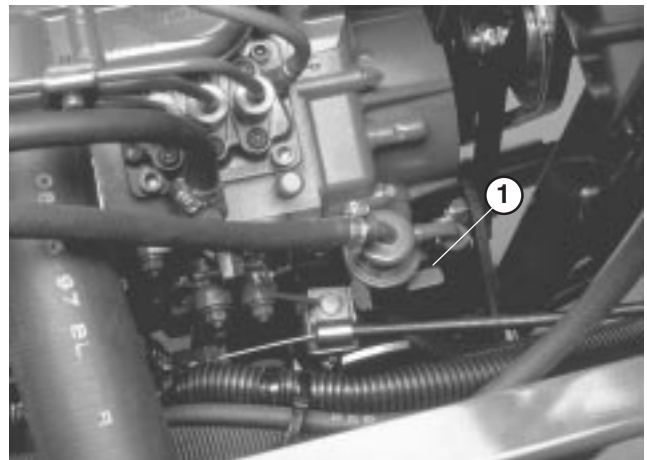

Figure 26
3. Pump lever on fuel pump (Fig. 26) until a solid stream of fuel flows out around screw. Tighten air bleed screw.
5. Pump lever on fuel pump (Fig. 26) until a solid stream of fuel flows out around screw on fuel injection pump. Tighten air bleed screw.